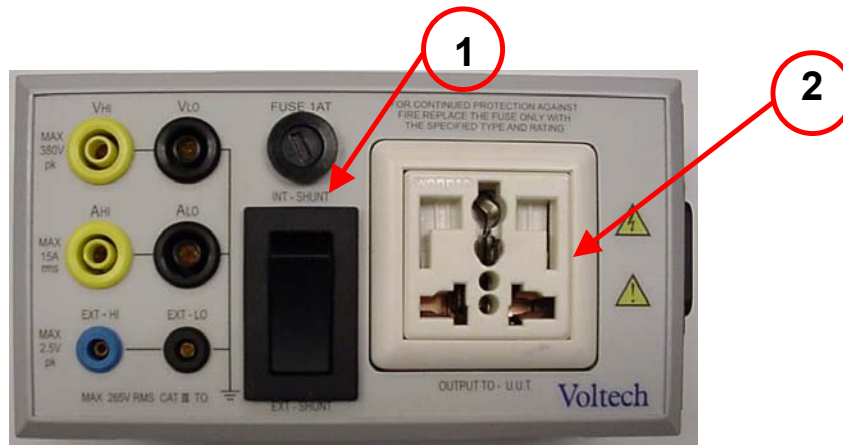

Figure 2.1 – Universal Break Out Box
- Set the shunt selector switch on the Universal Breakout Box to INT - SHUNT. Figure 2.1(1).
- Connect the PM1000+ mains lead to the Universal Breakout Box power socket labeled “OUTPUT TO – U.U.T.” and shown in figure 2.1(2).